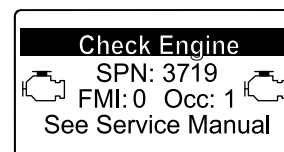

Figure 59
- Engine warning SPN 3719, FMI: 0 (Figure 59)